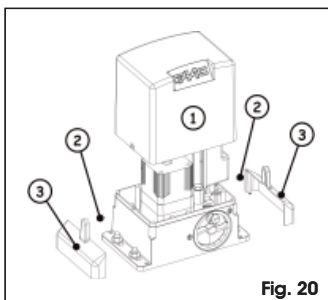

Fig. 20
Return the board support to its original position. Fit the cover (Fig. 20 ref. 1), tighten the two side screws provided (Fig. 20 ref. 2) and snap-fit the side panels (Fig. 20 ref. 3).